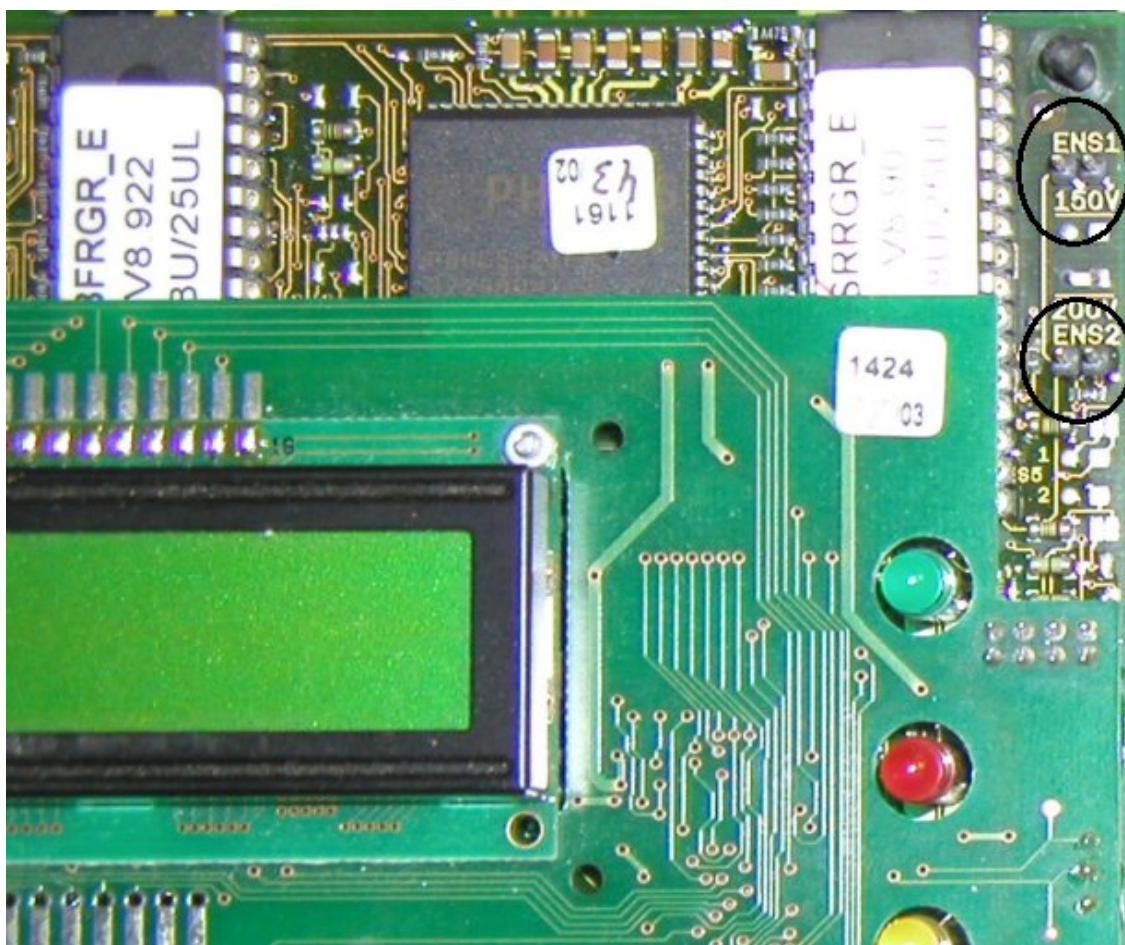

Figure 1
5. Locate the two pins labeled **ENS1** shown in Figure 1 below.
7. Locate the two pins labeled **ENS2** shown in Figure 1 below, they are approximately one (1) inch below the pins labeled **ENS1**.